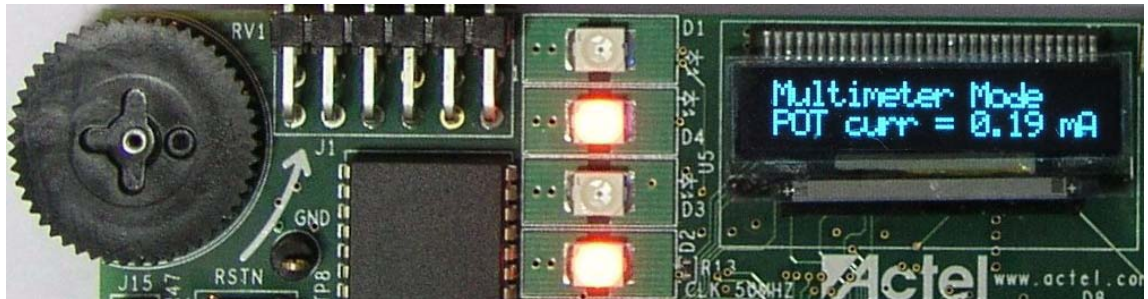

Figure 2-5 · Multimeter Mode – Current Measurement
- Press SW3 to check the current flowing through the potentiometer and see the results on the OLED (Figure 2-5).